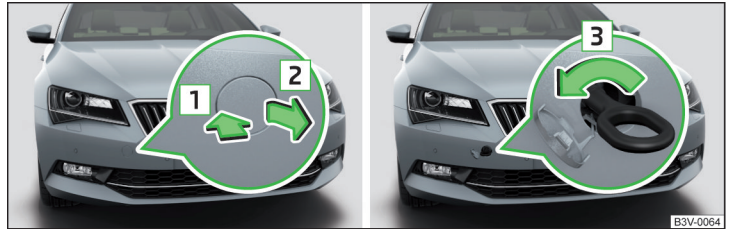

Fig. 239 Remove cap / install towing eye
- To **remove**, press on the cap in the direction of the arrow **1** and remove this in the direction of arrow **2** » Fig. 239.
- To **install**, screw in the towing eye by hand in the direction of arrow **3** » Fig. 239 until the stop » !.